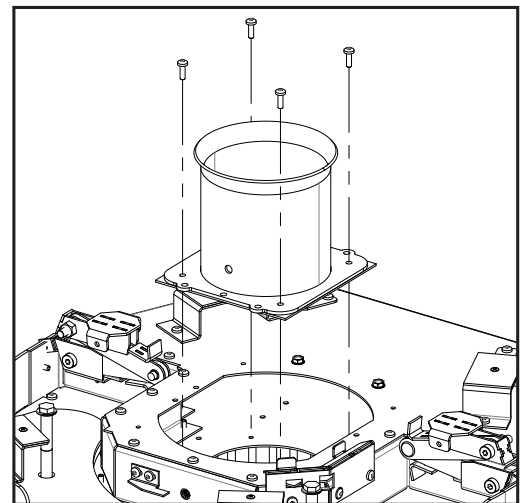

**Figure 67: Restrictor Rod Removal**
6. Remove the threaded rod from the exhaust spigot (see Figure 67). A power drill with a 7/16" socket and extension will be helpful here.